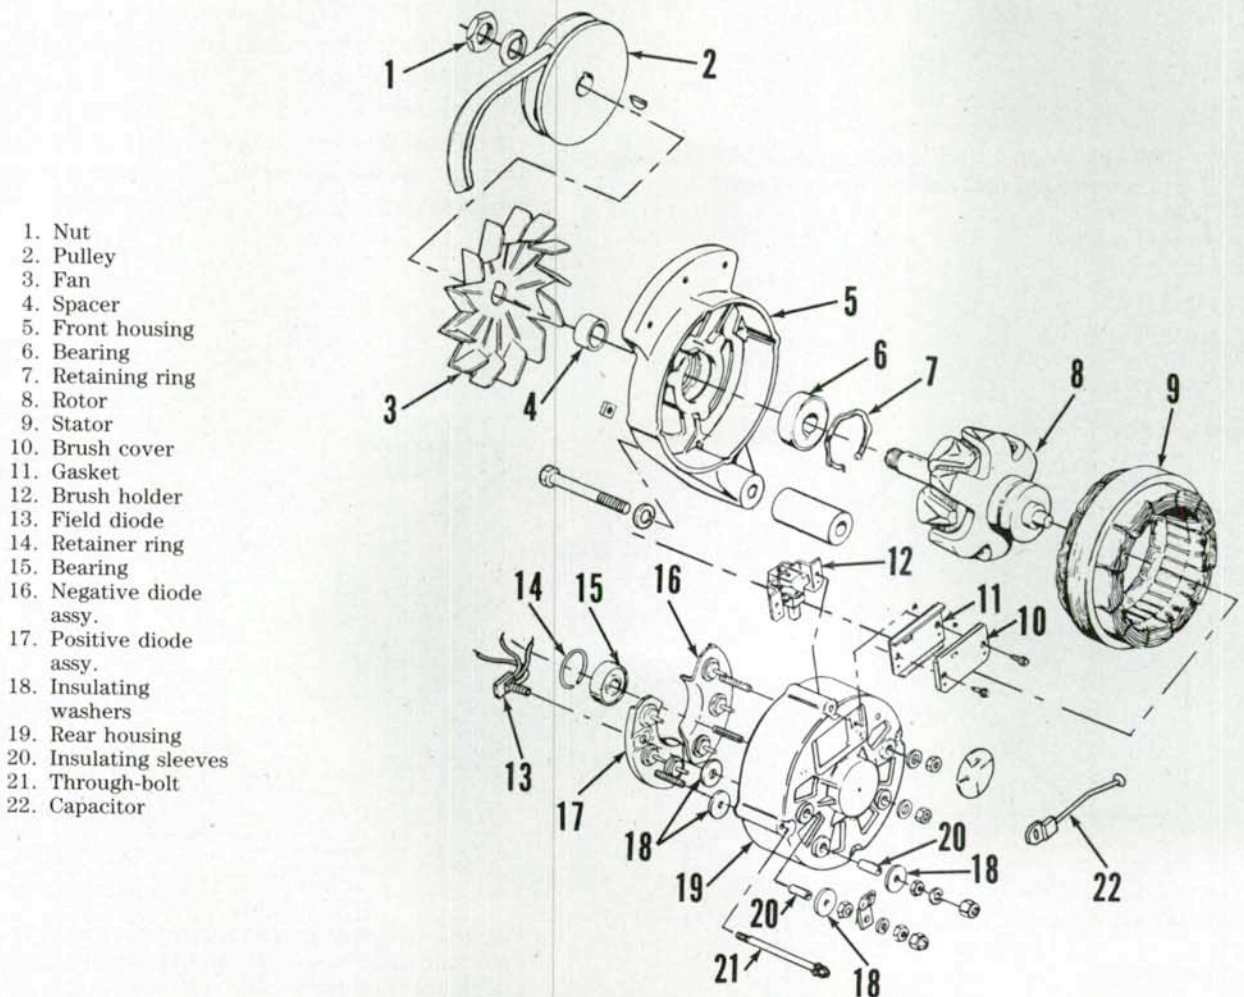

Fig. 148—Exploded view of Motorola alternator used on all models.
Remove retaining screws from brush cover (10—Fig. 148), disconnect field terminal wire from brush assembly. Remove retaining screws from brush holder and withdraw brush assembly (12) from alternator.
**107. REASSEMBLY.** To reassemble alternator, reverse the disassembly procedure while noting the following special instructions. Use some type of heat sink (such as needlenose pliers) on diode connector pins when soldering stator leads to diodes to protect diodes from heat damage. Use only resin core solder. Be sure insulating washers (18—Fig. 148) and sleeves (20) are installed on studs of positive rectifying diode assembly (17). Align scribe marks on front and rear housings when joining the housings.